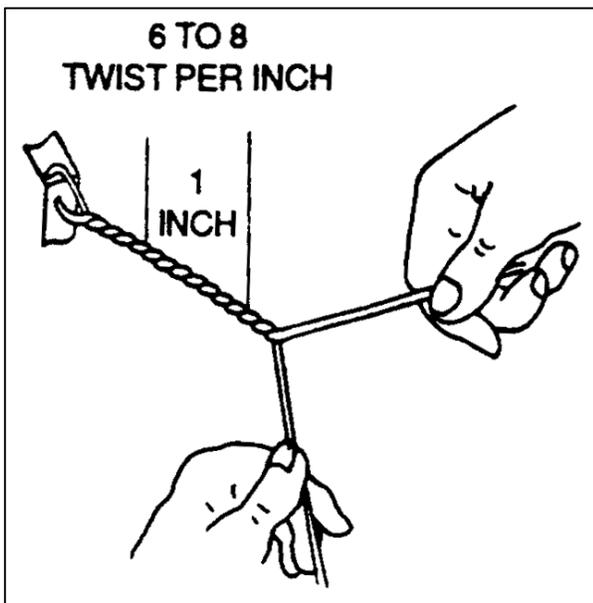

FIGURE 7-3a. Wire twisting by hand.
e. Safety wire must never be overstressed. Safety wire will break under vibrations if twisted too tightly. Safety wire must be pulled taut when being twisted, and maintain a light tension when secured. (See figure 7-3a.)
(1) Check the units to be safety wired to make sure that they have been correctly torqued, and that the wiring holes are properly aligned to each other. When there are two or more units, it is desirable that the holes in the units be aligned to each other. Never over-torque or loosen to obtain proper alignment of the holes. It should be possible to align the wiring holes when the bolts are torqued within the specified limits. Washers may be used (see paragraph 7-37) to establish proper alignment. However, if it is impossible to obtain a proper alignment of the holes without undertorquing or overtorquing, try another bolt which will permit proper alignment within the specified torque limits.
(2) To prevent mutilation of the twisted section of wire, when using pliers, grasp the wires at the ends. Safety wire must not be nicked, kinked, or mutilated. Never twist the wire ends off with pliers; and, when cutting off